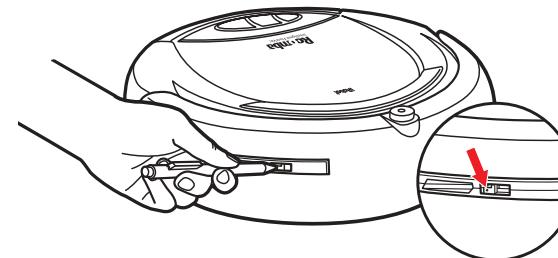

FIGURE 15: USING A PEN TO ADJUST HOW CLOSE OR FAR AWAY ROOMBA WILL FOLLOW WALLS.
1. If the Spinning Side Brush does not clean close enough to the wall, use a pen to push the Adjustment Tab toward the rear of the Bumper (see Figure 15). This will make Roomba follow closer to walls.